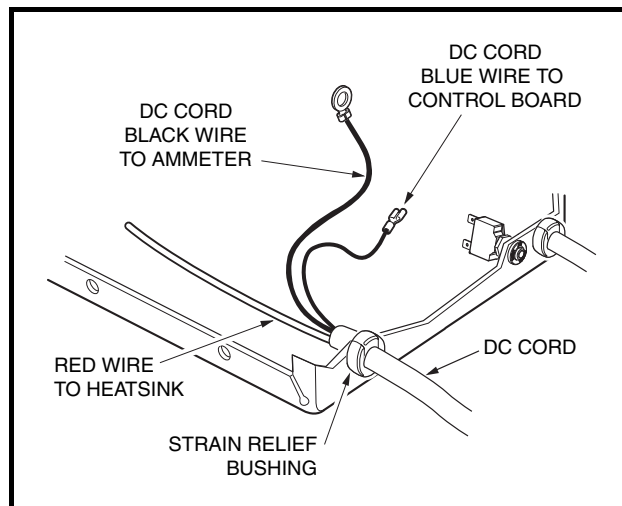
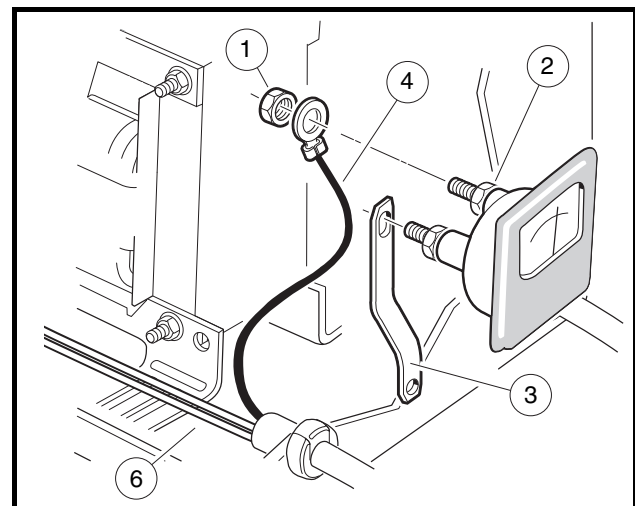

Figure 9-16 DC Cord
Figure 9-17 DC Cord Replacement
3. To check the continuity of the DC cord, disconnect the black wire of the DC cord from the ammeter **(Figure 9-16, Page 9-22).**
3. Remove the DC cord black wire (4) from the ammeter by loosening the nut (1). Support the terminal as the nut is loosened to prevent rotation of the connection (Figure 9-17, Page 9-22).
4. Remove nut attaching the red wire (6) of the charger DC cord to the heatsink.
7. Disconnect the DC cord blue wire from the control board (Figure 9-16, Page 9-22).
8. Using pliers, squeeze the strain relief bushing and remove the DC cord (Figure 9-16, Page 9-22).
2. Attach the red wire of the new DC cord to the center terminal of the heatsink and tighten the nut to 18 in-lb (2.0 N·m) (Figure 9-16, Page 9-22).
3. Attach the blue wire of the new DC cord to the control board (**Figure 9-16, Page 9-22**).
4. Attach black wire of the new DC cord to ammeter. Install nut (1) onto post of ammeter slightly more than finger tight. While holding the inside nut (2), tighten the outside nut (1) 1/4 turn (**Figure 9-17, Page 9-22**). **See following CAUTION.**